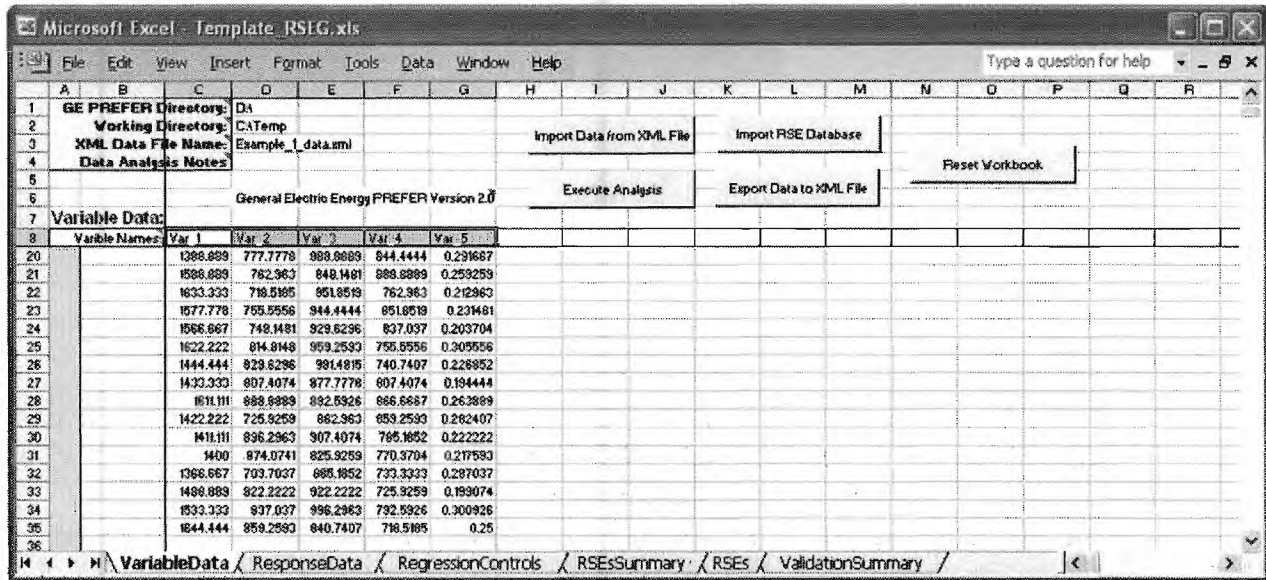

Figure 9: VariableData sheet after completing Steps 1 to 3
- Figure 9 shows the VariableData sheet after completing Steps 1 to 3.